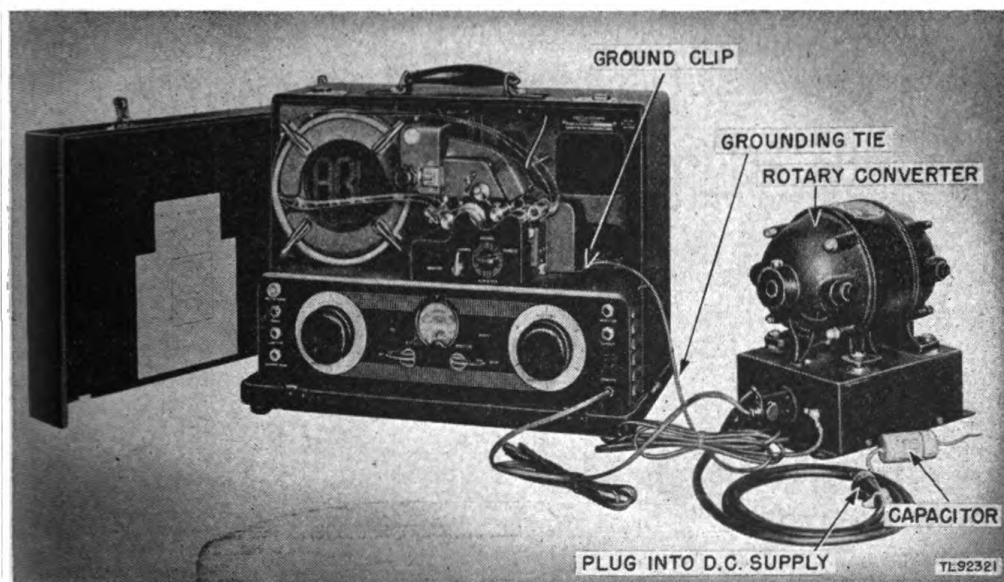

Figure 13. Sound Recording Set AN/UNQ-1 connected to a rotary converter.
a. EQUIPMENT NEEDED (fig. 13). (1) One rotary converter with a 110-volt, d-c, input motor and a 110-volt, 60-cycle, alternator rated at least 200 watts.
(2) One paper capacitor rated at 1 microfarad and a working voltage of 600 volts.
(3) Two No. 8 tinned soldering lugs.
(4) One 6-foot length of rubber-covered, flexible hook-up wire (#18 stranded).
b. INSTALLATION AND NOISE REDUCTION. (1) Solder the ca-